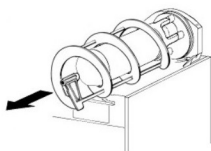
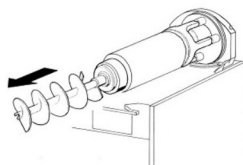

figure 3
figure 4
4. Slide the outer spiral out (fig.3)and then the inside auger (fig.4)